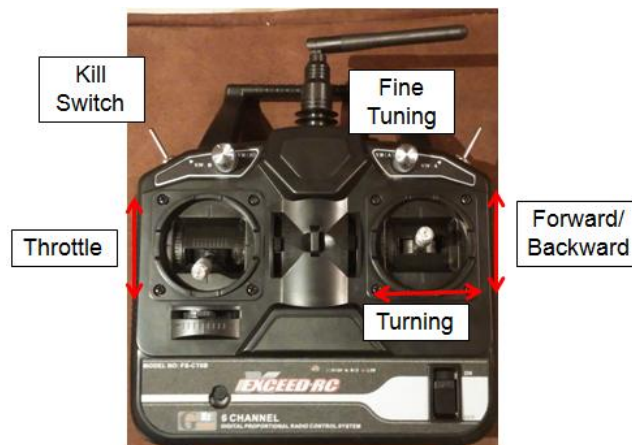

Figure 9: Throttle Positions
2. With the vehicle in safe operating condition, and the transmitter turned off, connect batteries to terminals and secure onto helicopter. At a safe distance and with the throttle at zero turn on transmitter (shown in **Figure 9**). Wait for warm up tone.